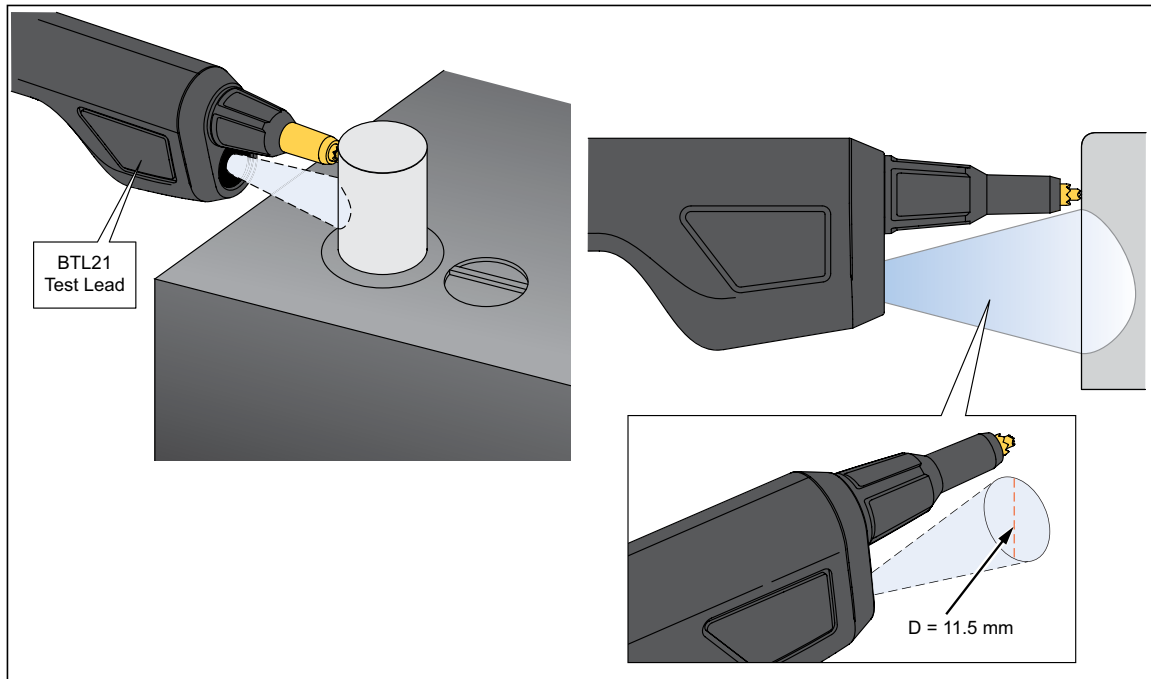

Figure 4-5. Measure the Temperature of a Battery Pole
2. Adjust the test lead to let the entire flare fall on the battery pole. See Figure 4-5. The temperature reading shows on the LCD of the interactive test probe.
Figure 4-5 shows the measurement field of a battery pole.